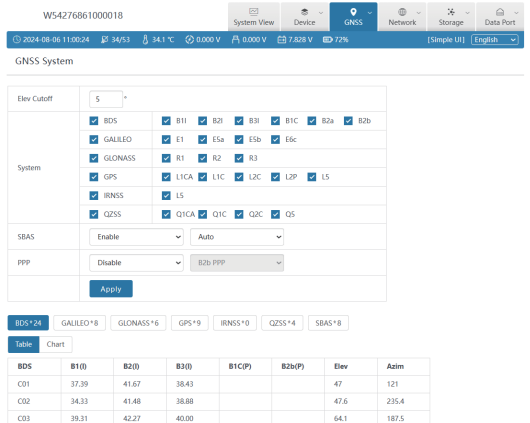

Figure 2.3-2
- ① GNSS System: Elev Cutoff: Set the Elev Cutoff.
- ② Satellite List: There are many satellite systems available, such as BDS, GALILEO, GPS, GALONASS, etc. If you find that the device receives fewer satellites under normal conditions, you can enter the page to check whether all satellite systems are turned on, click the small box at the back to turn on/off the corresponding satellite system.
- ③ SBAS: Choose to turn on or off the satellite-based augmentation system.
- ④ PPP: Select to disable or enable PPP mode, as shown in Figure 2.3-2